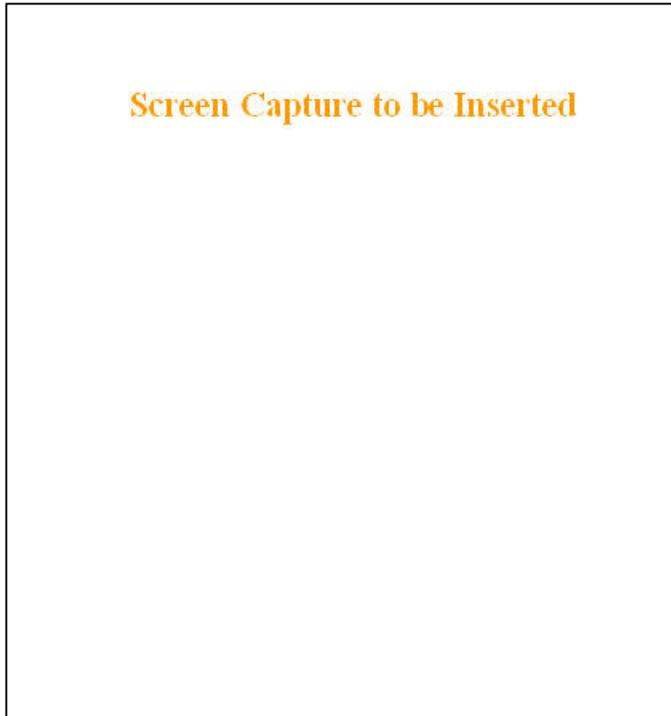

*Figure 42 - Advanced IP Configuration – IP Optimization & Tuning (Router Mode)*
**Note:** No optimizations are available in Bridge Mode. Figure 42 shows Router mode screen.